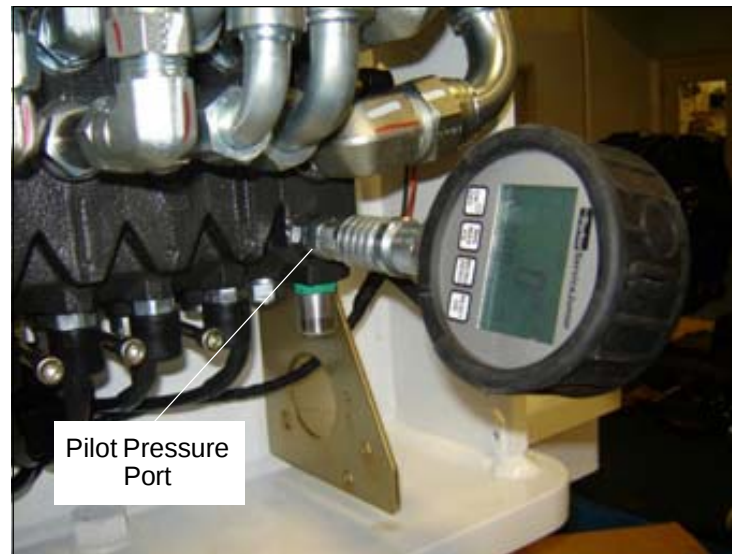

Figure 3 — Gauge On Pilot Pressure Quick Disconnect
8. Disengage the unit's hydraulic system and turn off the engine. Leaving the pressure gauge turned on, remove it from the tank pressure quick disconnect and attach it to the pilot pressure quick disconnect, located on the lower right corner of the lower control valve (refer to Figure 3). **Do not rezero the pressure gauge when relocating it. The same pressure gauge must be used for both readings.**